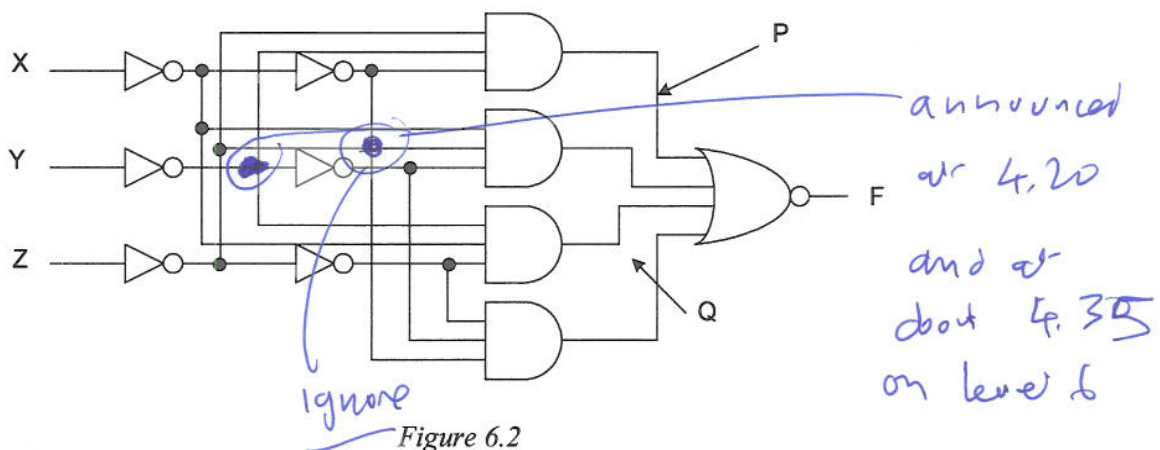

Figure 6.2
- c) For the circuit shown in Figure 6.2, find test vectors that can locate stuck-at faults at nodes P and Q.